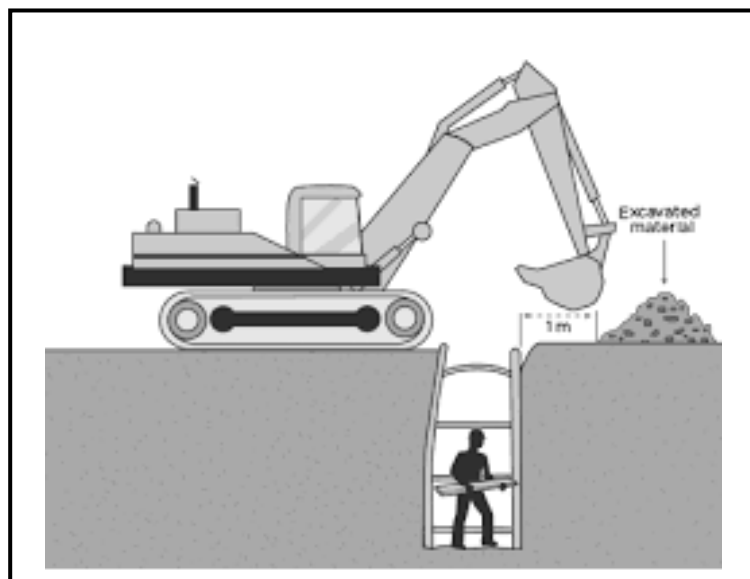

FIGURE 4.2
4.2 FIGURE 4.2 below shows workers working in and around excavations.